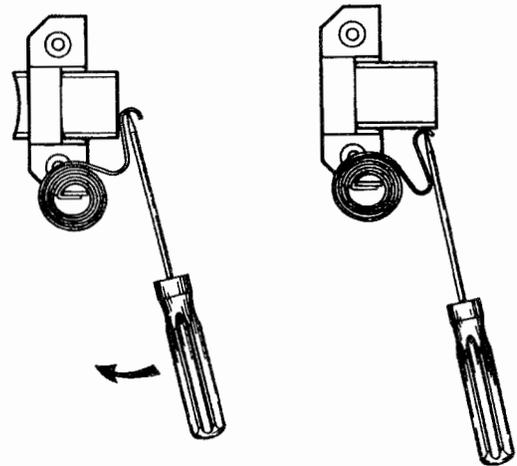

FIGURE 6-36. RESTING BRUSH SPRING ON SIDE OF BRUSH
6. If the brushes are at least 0.430 inch (10.9 mm) long, rest the brush springs against the sides of the brushes to keep them clear during armature installation. See Figure 6-36.